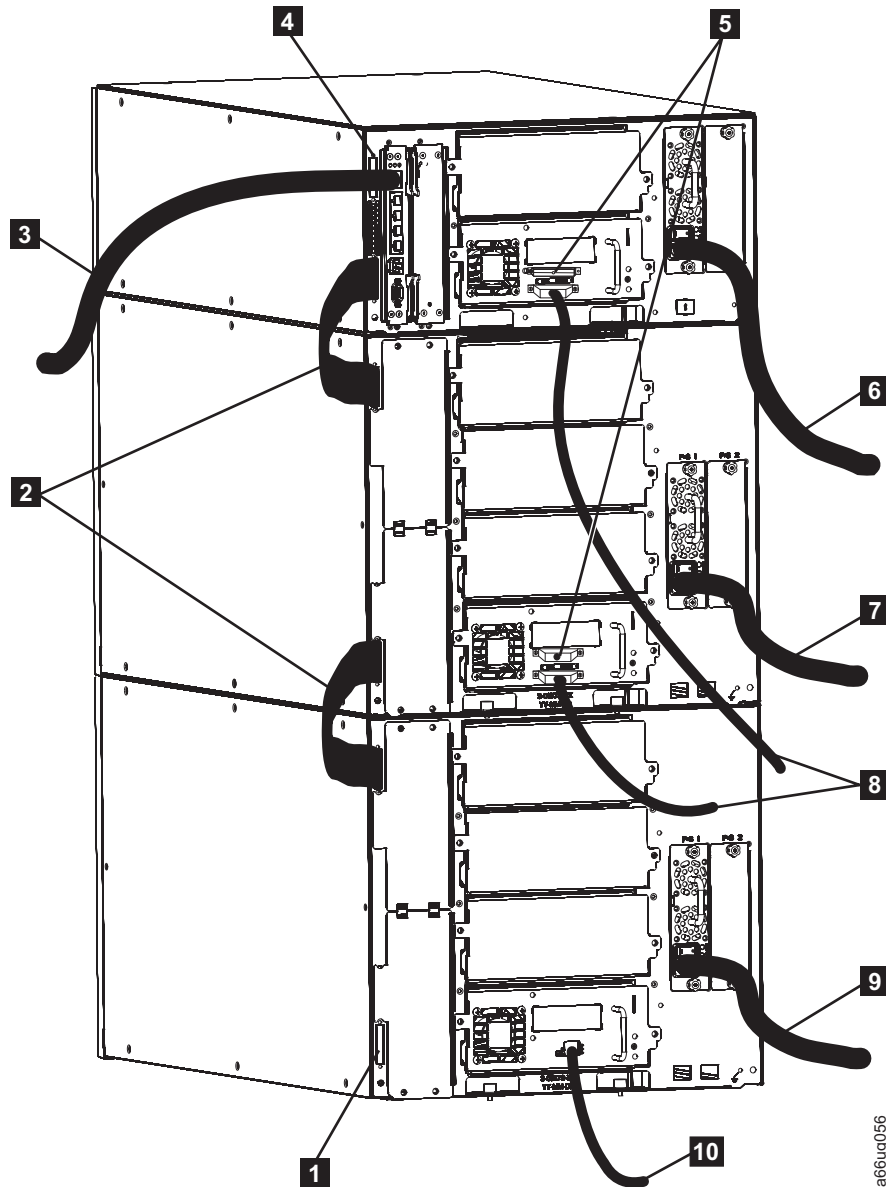

Figure 3-33. Cabling with Fibre Channel drives
1. Install a module communication terminator in the upper receptacle of the upper module of your library (**4** in Figure 3-33).
2. Install one end of one of the module-to-module communication cable in the lower receptacle of the upper module of your library, then install the other end in the upper receptacle of the middle module of your library (**2** in Figure 3-33 on page 3-35).
3. Install one end of the other module-to-module communication cable in the lower receptacle of the middle module of your library, then install the other end in the upper receptacle of the bottom module of your library (**2** in Figure 3-33 on page 3-35).
4. Install a module communication terminator in the lower receptacle of the bottom module of your library (**1** in Figure 3-33 on page 3-35).
5. Install one end of the customer-supplied Ethernet cable in the Library Control Blade Ethernet port, then connect the other end of the cable to your network (**3** in Figure 3-33 on page 3-35).
6. For each drive, install one end of the drive host SAS or fibre cable in a drive in the library, then connect the other end of the cable to your network (**10** in Figure 3-33 on page 3-35). Repeat this for every drive in your library.
7. Connect one end of the power cord in the receptacle of a power supply in your library, then connect the other end of the cord to your power source. Repeat this for every power supply in your library (**6** , **7** , and **9** in Figure 3-33 on page 3-35).